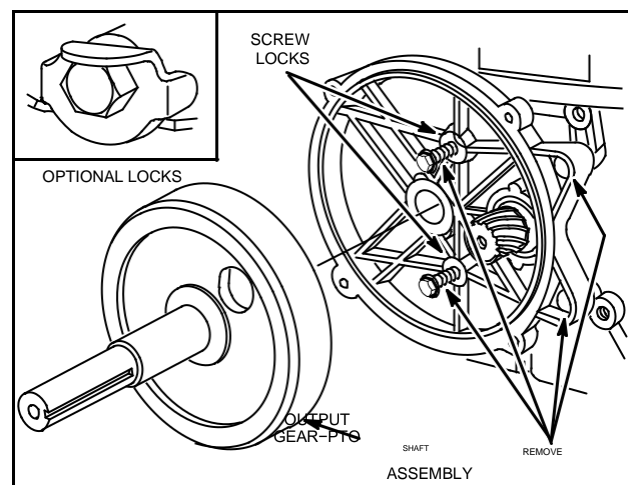

Fig. 138 - REMOVING GEAR CASE
4. Slide gear case assembly from engine, Fig. 138.